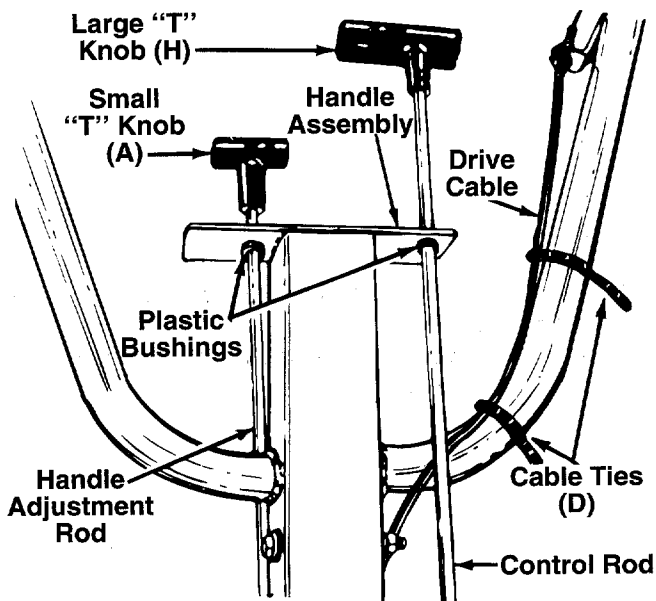

FIGURE 11.
20. Insert the threaded end of control rod up through the plastic bushing on the left side of handle assembly. See figure 11. Thread the large “T” knob (H) on the end of control rod.
21. Insert the threaded end of handle adjustment rod up through the plastic bushing on the right side of handle assembly. Thread the small “T” knob (A) on the end of handle adjustment rod.
24. Secure drive cable to left handle using cable ties (D). Refer to figure 11. Cut off excess end of cable ties.